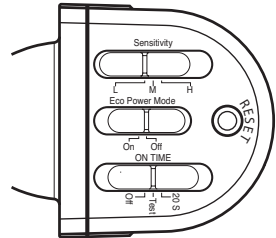

Figure 7
- If eave mounted, mount the fixture with sensor facing away from the house wall (see page 2). Rotate the sensor so the controls on the bottom of the sensor (see Figure 7) face the ground.
1. Slide the sensitivity (SENS) switch to the “L” position, the ON-TIME switch to the TEST position, and the ECO POWER MODE switch to the OFF position (see Figure 7).